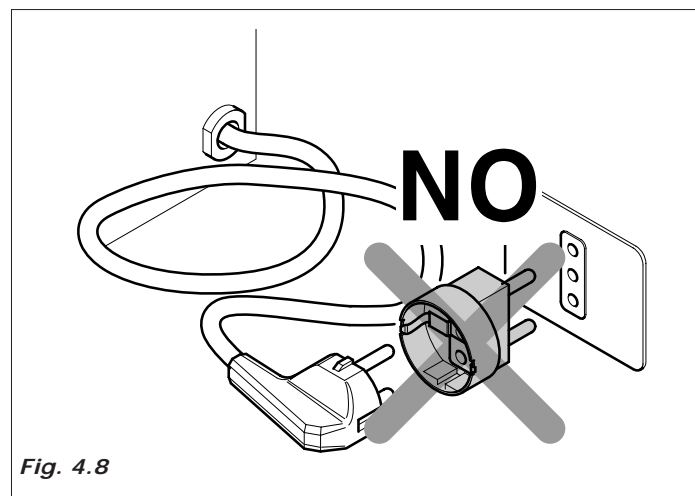

Fig. 4.8
- The sockets that are not compatible with that of the machine must be replaced. (Fig.4.8).